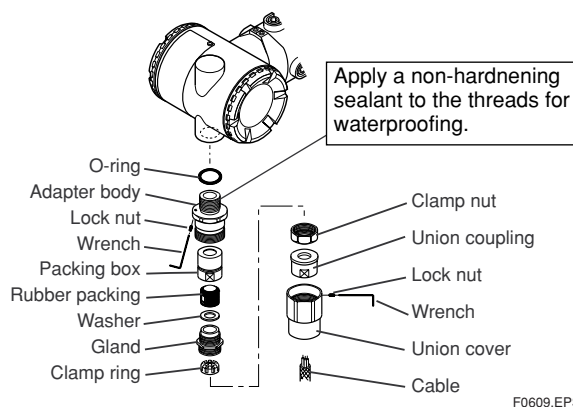

Figure 6.4.2c Installing Flameproof Packing Adapter
- Mounting flameproof packing adapter body to conduit connection (see Figure 6.4.2c)